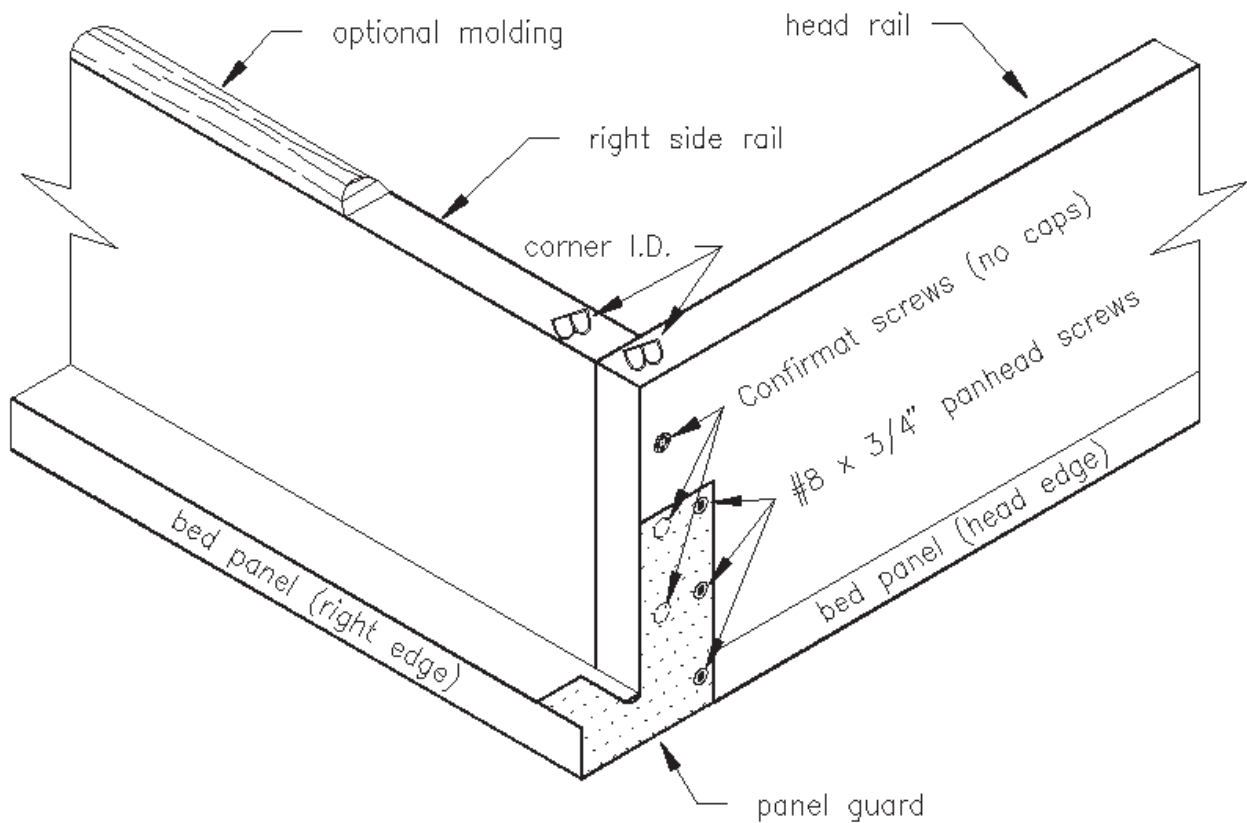

Figure 10. The Right Panel Guard.
- Attach the Velcro straps to the side cleats (four holes up from the foot end) using 3/16" x 3/4" (OD) flat washers and #8 x 1 1/4" wood screws screwed through the folded-over Velcro ends. Make sure that the Velcro "hooks" and "loops" face each other.
- Position the left and right Panel Guards against the outer ends of the Head Rail so that the bent tab sits on the inner surface of the corner of the BED PANEL, see **Figure 10**. Attach using #8 x 3/4" panhead screws.